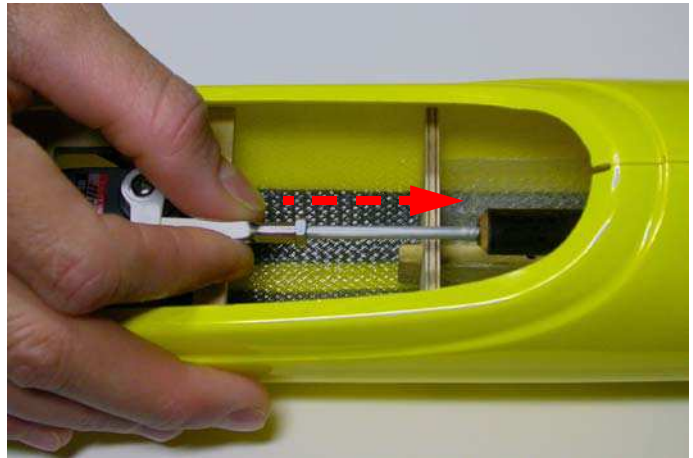

Fig.91: Insert the group into the carbon pushrod.
- insert the front pushrod group into the carbon pushrod "ARCB" (see figure 91);